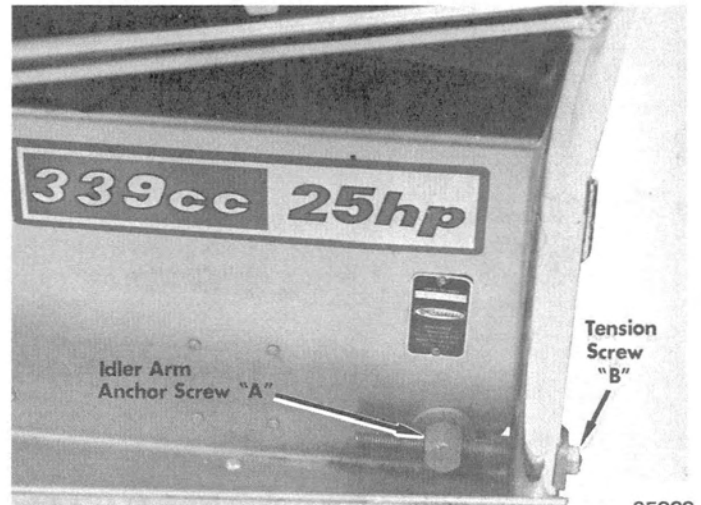

Figure 4. Adjustment Location (Rocket and Lightning Models)
1. Loosen nuts on idler arm anchor screws ("A" in Figure 4) and adjust tension screws ("B" in Figure 4) equally on both sides of the vehicle until correct tension has been acquired.